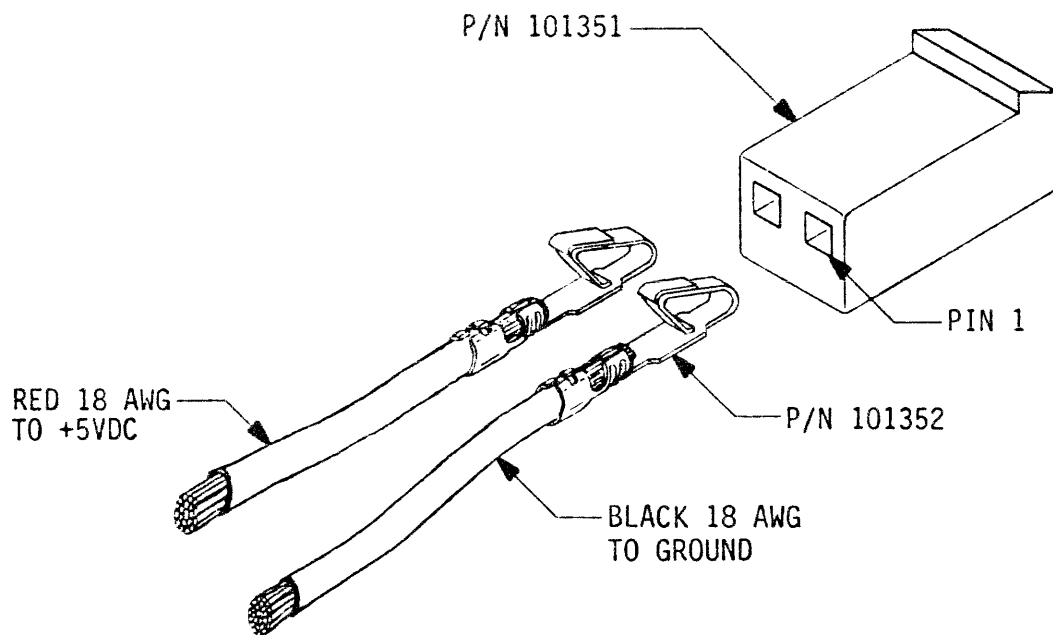

FIGURE 4 - SMART-T POWER CABLE
- 14. Construct a power cable using the connector housing, P/N 101351, two (2) terminals, P/N 101352, and two (2) 18 AWG wires, one (1) RED and one (1) BLACK (the wire is user supplied). Refer to Figure 4 for the correct positions of the RED and BLACK wire in the connector. The RED wire must go to the +5 volt terminal of the user supplied power source, and the BLACK wire must go to the ground terminal.